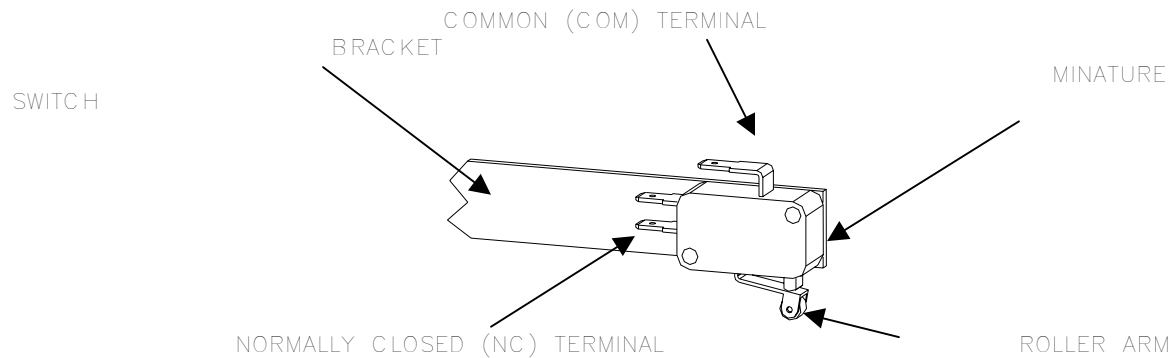

Figure 5
- If the Red warning lights are not flashing, then the air door switch option #SCC-AM-SW is required (**Figure 5**)